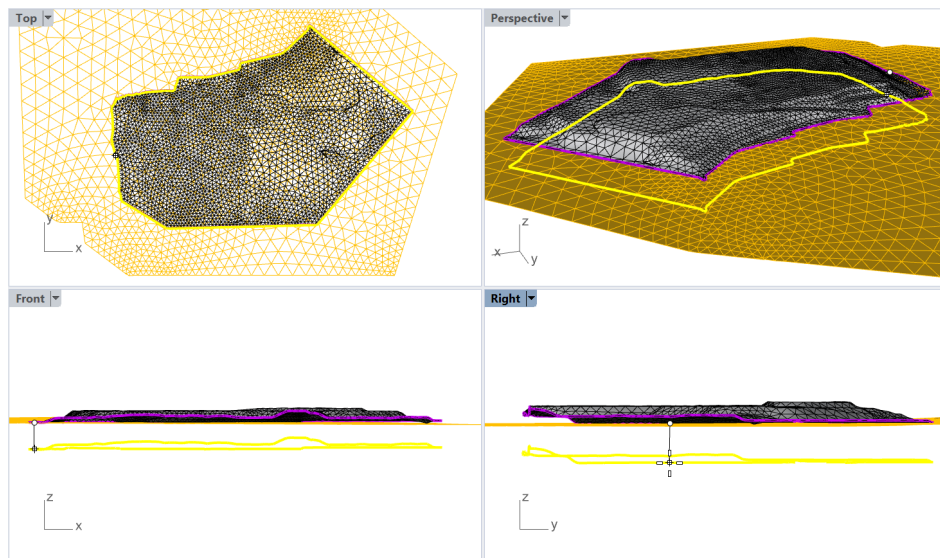
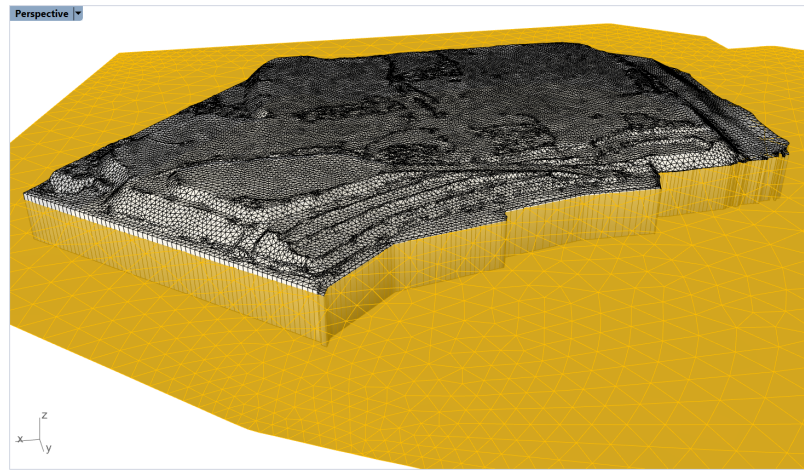

Figure 80: Extension of the pit dump mesh downward along its boundary (*FreeExtend* mode).
Figure 81: Extended pit dump mesh fully intersecting topo mesh.
16. Select the pit dump mesh and use **\_GExtend** → *FreeExtend* option. The mesh boundary will be highlighted in magenta; select the whole boundary (**Ctrl+A**) and press **Enter**. Now the boundary can be dragged to a desired location, and the mesh will be extended to the new boundary. While the cursor is in drag mode, move it to *Front* or *Right* viewports (Figure 80). Then press and hold **Shift** and drag the mouse to position it under the topo mesh as in Figure 80. When the whole boundary is below the topo mesh, release the mouse button. This will extend the dump mesh along its boundary strictly downwards (Figure 80, Figure 81).